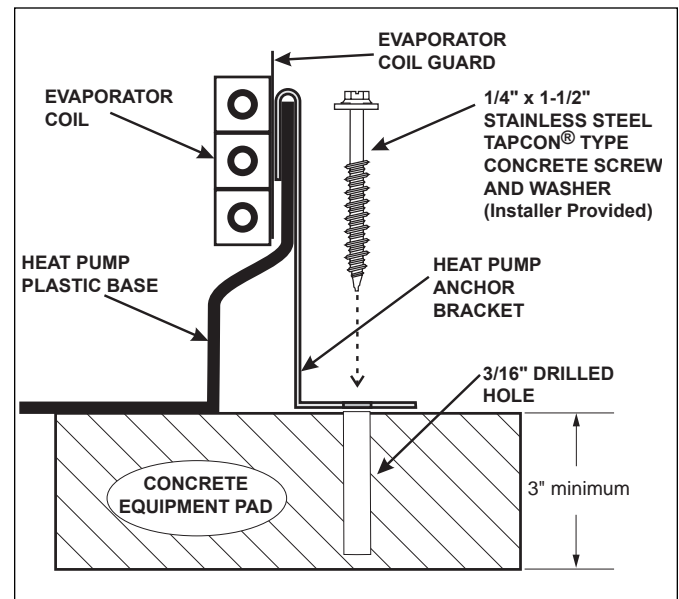

Figure 3. Anchor Clamp Installation
4. Fit the hook of each clamp over the lip on the base panel of the heat pump. The hook should fit between the lip of the base panel and the evaporator coil guard (see Figure 3).
8. Position the anchor clamps so that the holes in the clamps are over the bolt anchors. Be sure that the clamp hooks are over the lip of the heat pump base (see Figure 3).